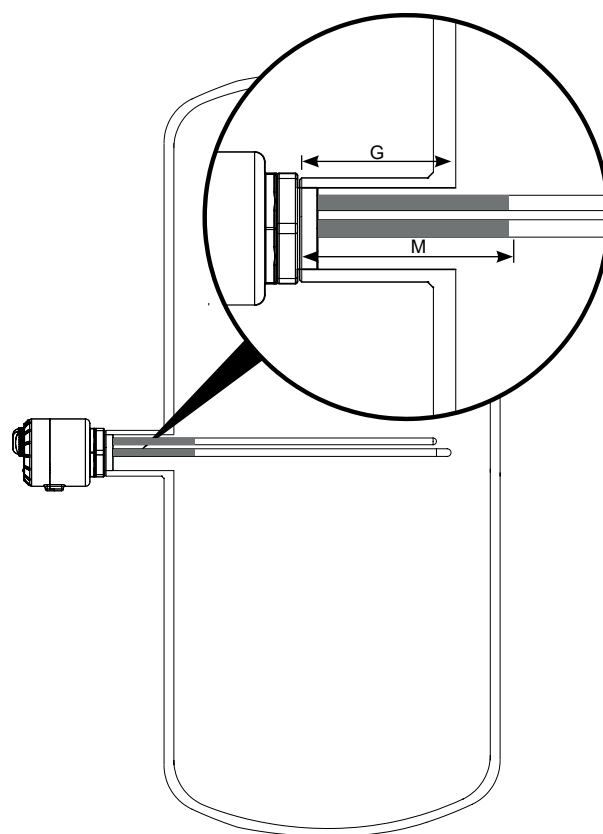

Fig. 3 The correct depth of the connection pipe.
- Check the connector pipe length (G), it must be shorter than the heating module dead zone (M) (**Fig. 3**).